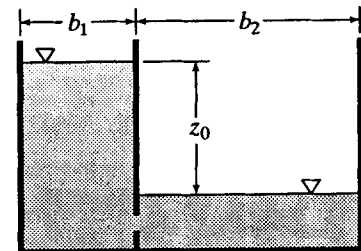

Figure X12.2.7
12.2.8 The tank in Fig. X12.2.7 has vertical sides, $b_1 = 3.6$ m, $b_2 = 7.2$ m, $z_0 = 4.2$ m, and its dimension normal to the plane of the paper is $a = 1.8$ m. The vertical dividing plate has a submerged orifice 0.063 m² in area ($C_d = 0.65$). How long will it take for the two water surfaces to equalize?
See Fig. X12.2.7 with Solution 12.2.7.